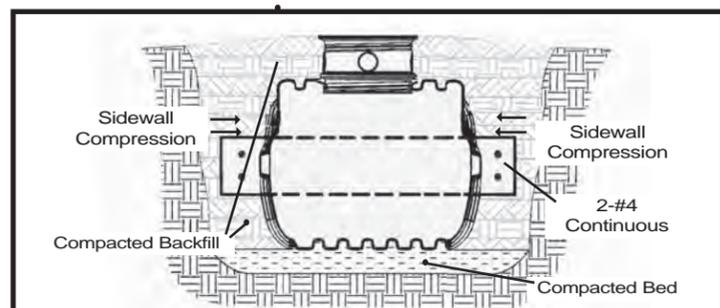

FIG. 4 Backfilling
- Use a hand tamper to achieve sidewall compression through compacted backfill. Mechanical compactors may be used if available on the site. Sidewall compression is essential to provide sidewall restraint after covering the tank. (Fig. 4)